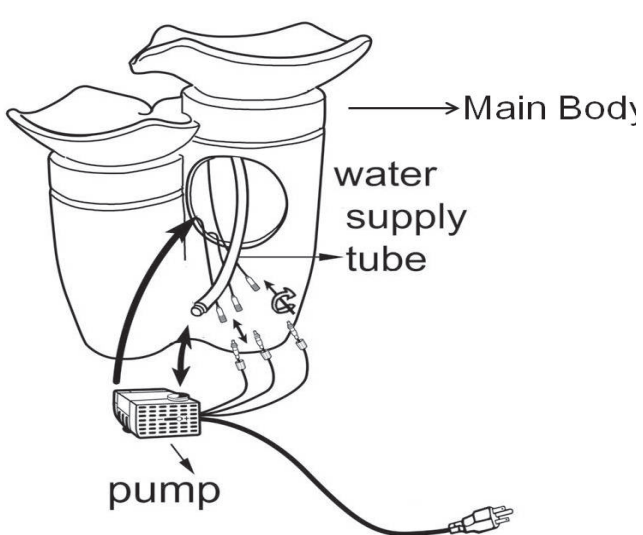

Fig.1
3. Place the main body on a flat, level surface. From the opening at the back of the fountain, insert the water supply tube into the pump outlet on the top of the pump and connect the LED lights with the light cable separately. Then please place the pump upright into the basin(Fig. 1& Fig.2)
6. The LED lights were pre-assembled, but they are replaceable. When replace them ,please refer to Fig.1.